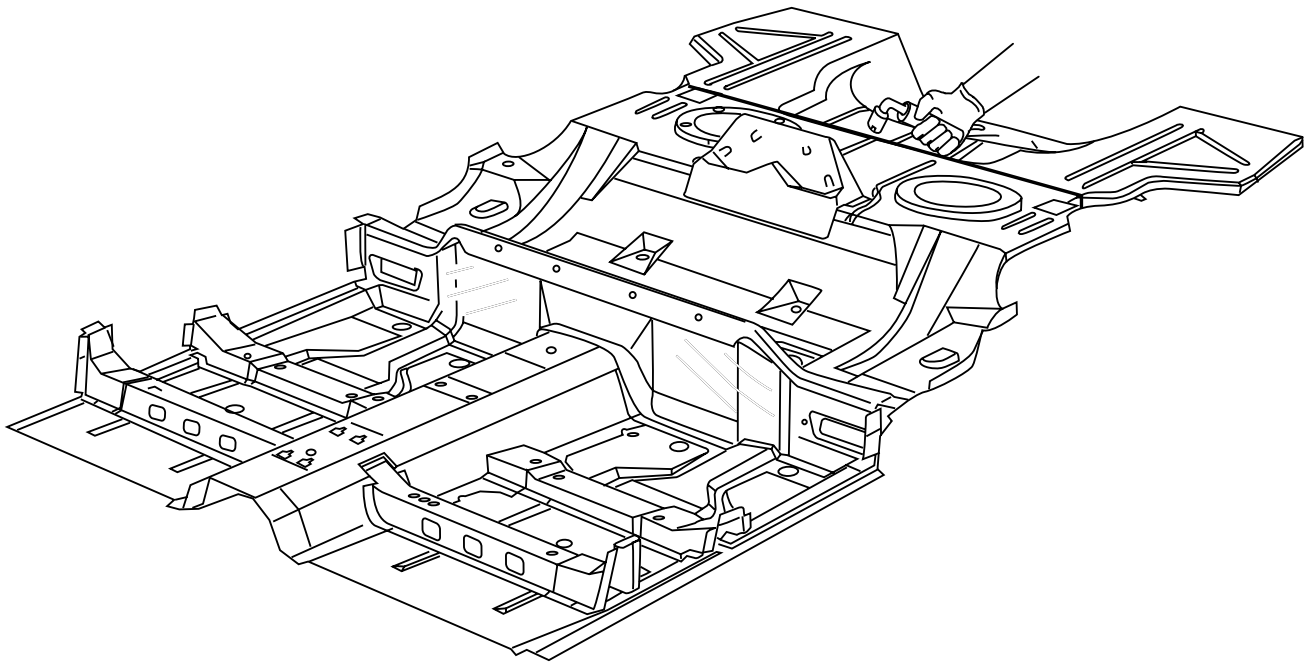

Fig. 4.39 — Installing new floor
- 2 Position the service floor section on top of the original floor and check the fit, then plug weld as necessary (Fig. 4.39).